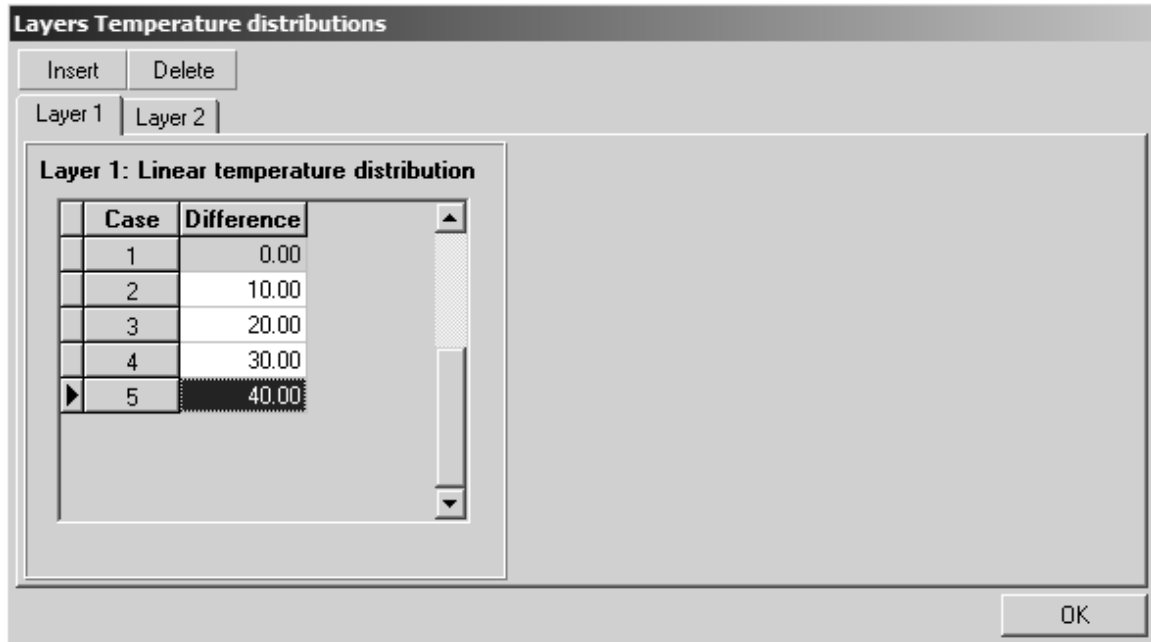

Figure 15: Batch Application for Temperature Module (linear)
- **Multiple analyses for temperature conditions:** Batch application allows for analysis of several temperature conditions at the same time. Figures 15 and 16 illustrate examples of batch application for linear thermal gradient and non-linear temperature profiles.